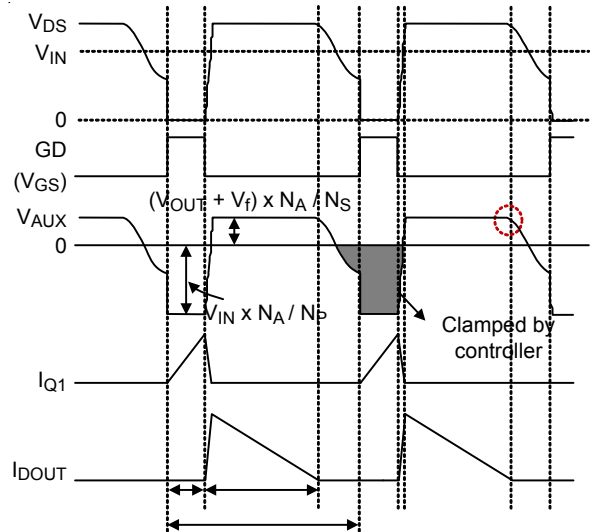

Figure 3. Key Waveforms of a Flyback Converter
The RT7304 needs no shunt regulator and opto-coupler at the secondary side to achieve the output current regulation. Figure 3 shows several key waveforms of a conventional flyback converter in Quasi-Resonant (QR) mode, in which V_{AUX} is the voltage on the auxiliary winding of the transformer.